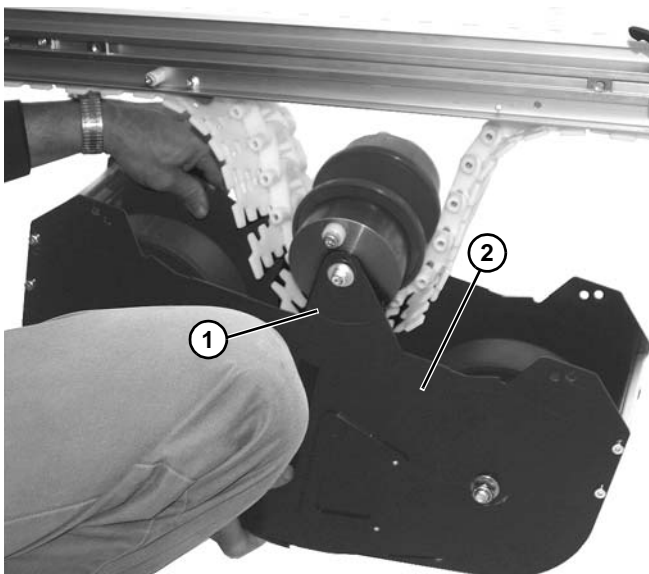

Figure 63
3. Raise weighted take up box assembly, with plate (**Figure 63, item 1**) on idler pulley assembly on outside of outer plate (**Figure 63, item 2**) of weighted take up assembly.